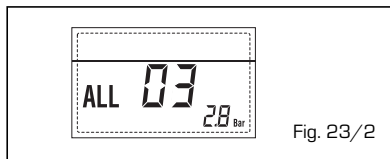

Fig. 23/2
**- ANOMALIA SONDA SANITARIO "ALL 04" (fig. 23/3)**